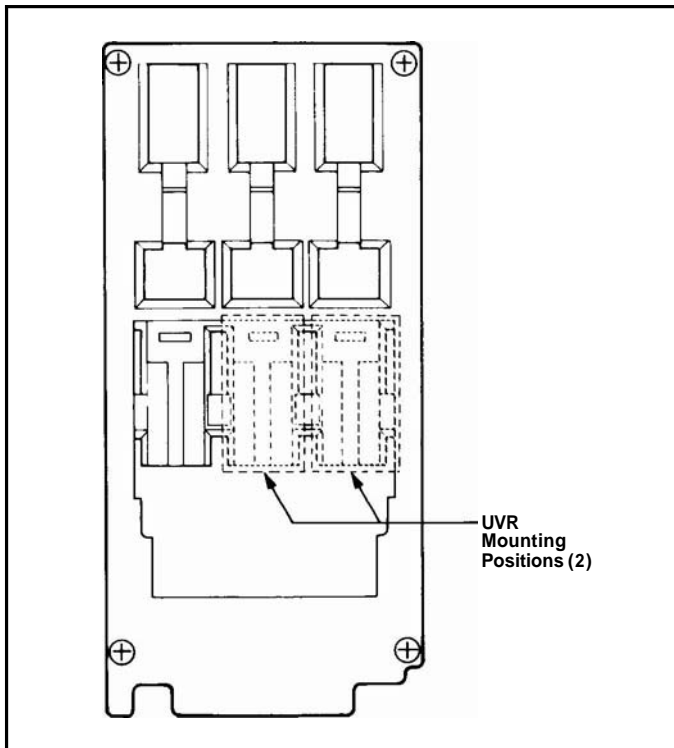

Fig. 2-2 Accessory Location Diagram
- Select position of UVR on accessory mounting deck (see Fig. 2-2).